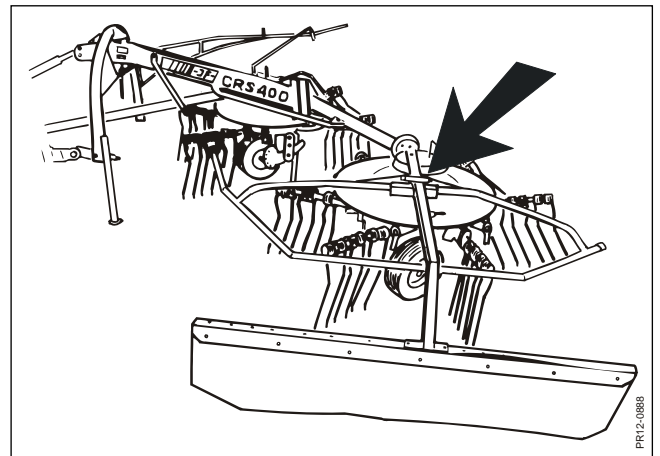

Fig. 2-6
**Fig. 2-6** Mount the support for swath guard - with holder for hoop - on the top cover for left rotor. Mount the left protective hoop in the holder with bolts and 2 spacers. Fasten the swath guard in the square tube by means of the catch.